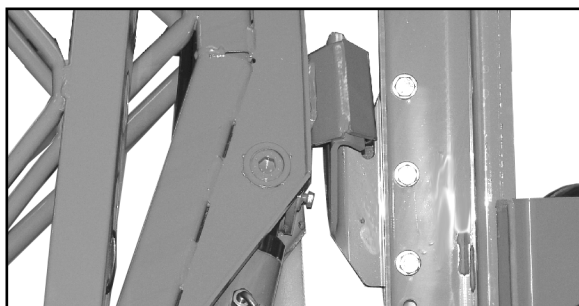

Fig. 7
- Transport locking mechanism (Fig. 7/1) to prevent the Q-plus boom from folding out unintentionally